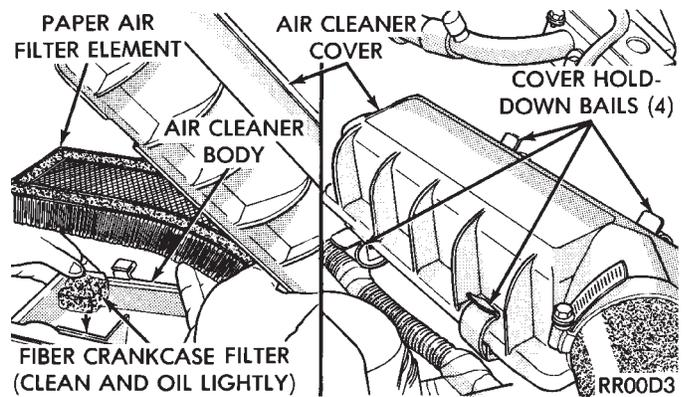
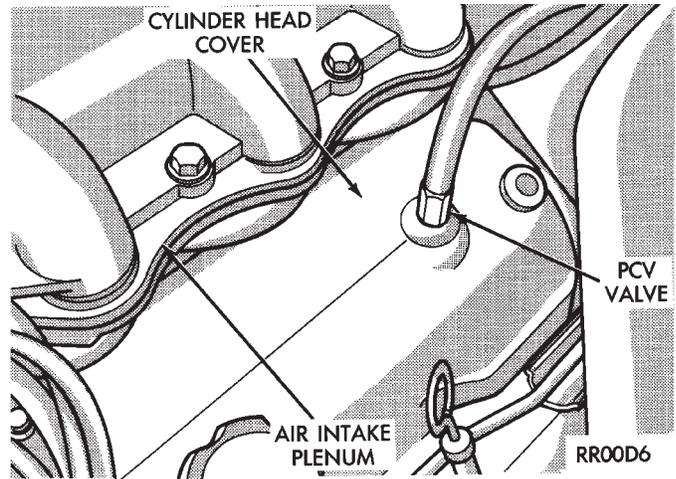

Fig. 7 Air Cleaner Assembly—3.0L Engine
Fig. 13 PCV System—3.0L Engine
- (1) Raise hood of vehicle and inspect all air cleaner components for damage or improper attachment.
- (2) Remove air cleaner cover (Figs. 7, 8, 9, 10 or 11).
- (4) Remove fiber crankcase filter (Figs. 7, 8, 9, 10 or 11) and clean with solvent, squeeze filter dry and apply small amount of engine oil. If a metallic mesh is used to retain fiber filter, clean mesh with solvent and reuse.
- (5) Clean inside of air cleaner cover and body with vacuum or compressed air. If oily, wash with solvent. To Install, reverse the preceding operation.
Engine crankcase pressure and emissions are vented into combustion chambers through the positive crankcase ventilation (PCV) system. The PCV system consists of a crankcase filter (Figs. 7, 8, 9, 10 or 11), PCV valve (Figs. 13, 14, 15 or 16) and hoses to complete a vacuum circuit. The PCV system should have enough volume to overcome crankcase pressure created by piston backwash. If a PCV system becomes plugged, the crankcase pressure will increase and force engine oil past the piston rings creating oil consumption. Blockage of PCV system can occur at the vacuum source coupling, PCV valve, crankcase filter or a collapsed hose.